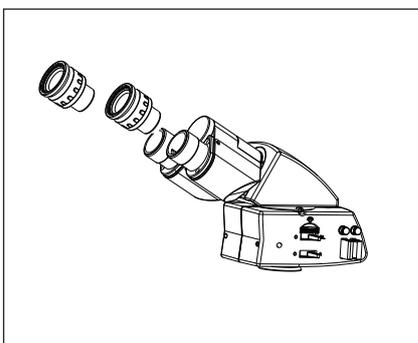

Fig.17
2. Insert eyepieces into the ocular sleeve for use (See figure 17).